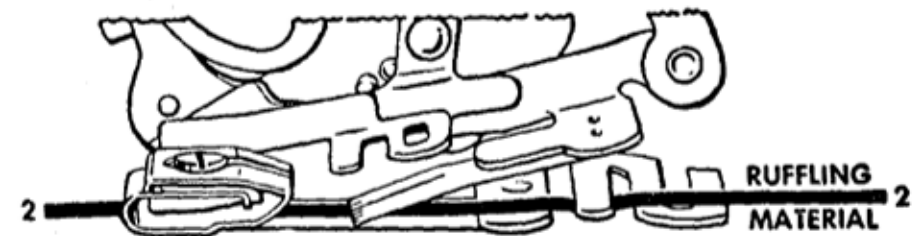

Fig. 72. Correct Position for Material
2. Insert material to be pleated between two blue blades **Line 2, Fig. 72**.